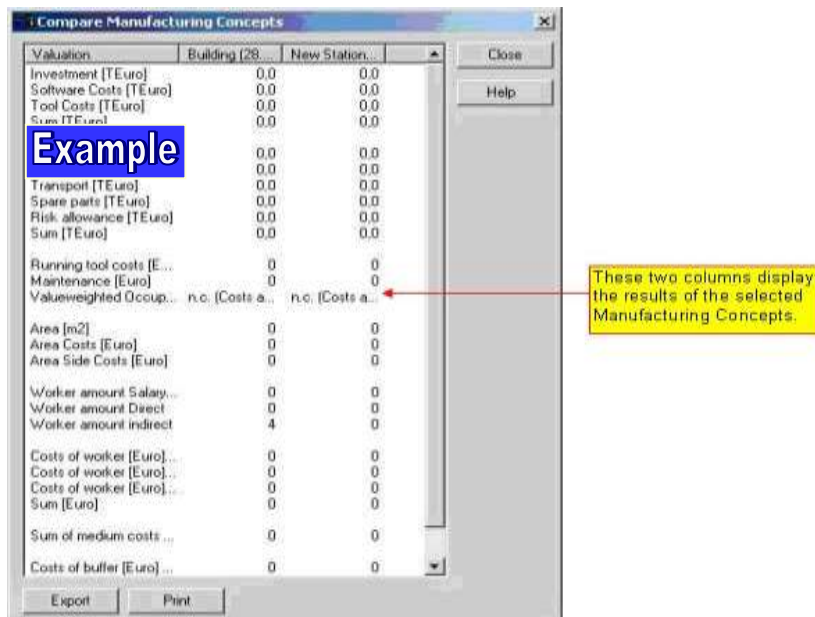

Figure 83: Comparing Manufacturing Concept – Dialog Showing Results
- 7) Click **Compare** in the right window. The dialog displays the result. *Please refer to the Figure 83.*